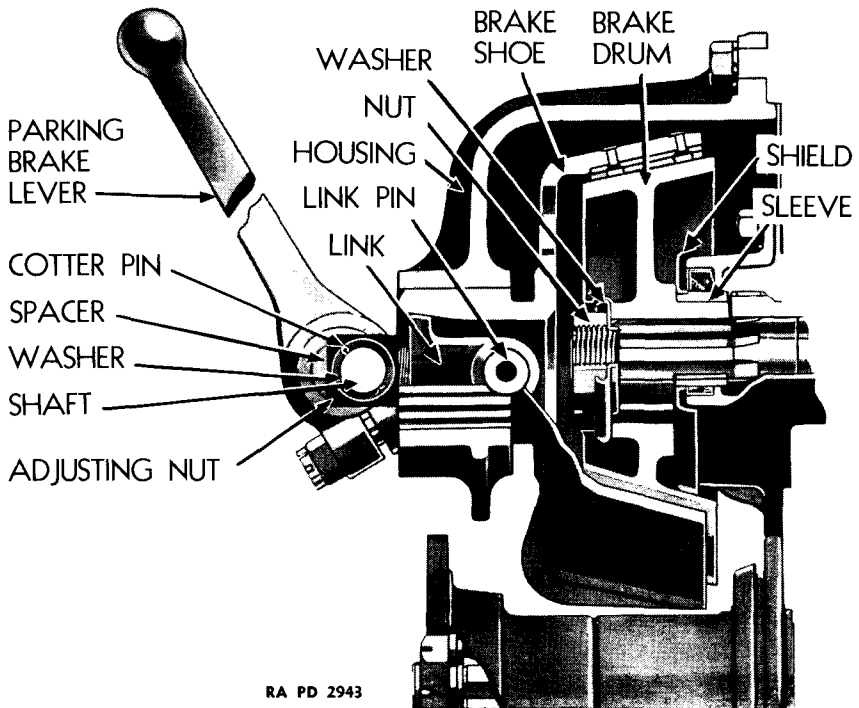

FIGURE 13 — CUT-AWAY OF PARKING BRAKE
c. *Procedure.* — (1) Remove and dismantle parking brake (*figs. 13 and 14*). Pull cotter pin from universal joint nut and remove the nut and washer (2 ⅝-in. wrench). Drive universal joint flange off shaft with wood hammer. Remove bolts (¾-in. wrench) that hold parking brake housing to the transmission. Lift off brake assembly. Remove cotter pin, washer and spacer from brake lever shaft and slide parking brake shaft out of housing. Lift brake shoe out of housing. Drive link pin out of link and collar and remove adjusting nut and link from splined collar of brake shoe. Lining of shoe should not be removed unless excessively worn or damaged. If lining must be removed, drive rivets out of shoe and lining with small punch and hammer and remove lining.